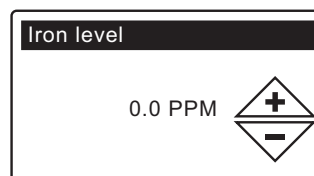

FIG. 18
11. **IRON LEVEL** Press the UP (▲) or DOWN (▼) buttons to set the value for iron in your water (See Figure 18)